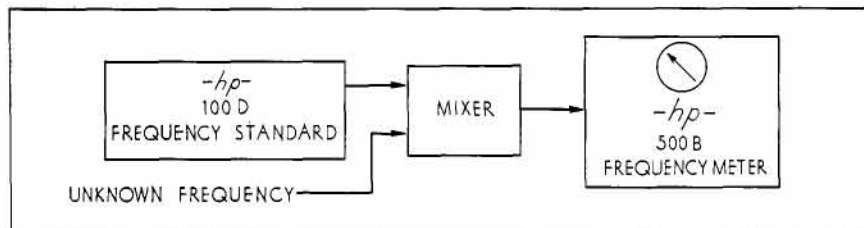

Figure 2. Typical setup for measuring deviation of unknown frequency from standard frequency.
-hp- 500B is particularly suited to crystal grinding work, where it can be used to measure frequency deviation from standard quickly and accurately. Similarly, in conjunction with *-hp- 100D* Frequency Standard and the *500B* quickly and accurately measures frequency deviation of the unknown from the standard frequency (Figure 2).